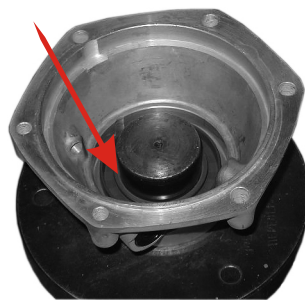

Fig.74
- Using a mandrel press collar 55-80-8 into the final drive cover (Fig. 74...76)